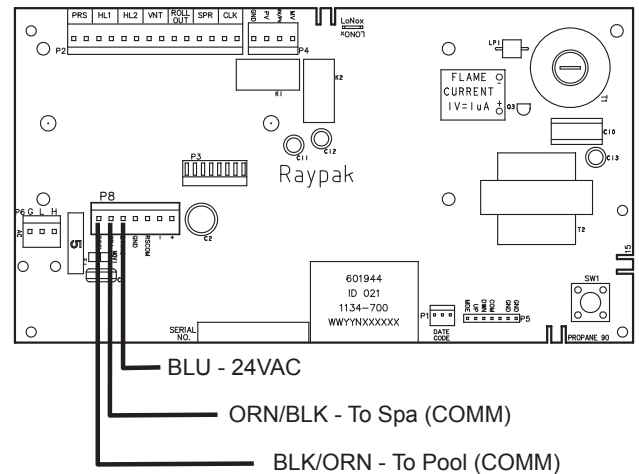

Figure 57. 3-Wire Remote Harness Installation on the P8 Connector of the Board
- Install the "Remote Interface Harness" to the P8 connector and turn power ON to the heater. See **Figure 57**.